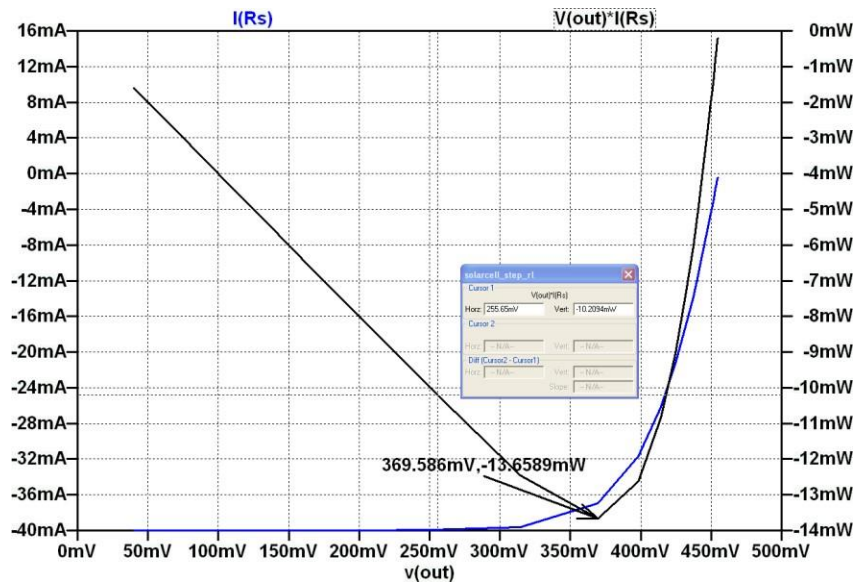

Figure 49: Finding maximum available power.
- Plot the power as $V(\text{out}) \times I(rs)$ (Figure 49).